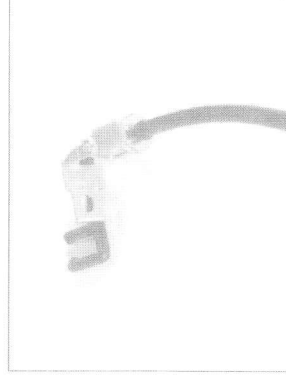
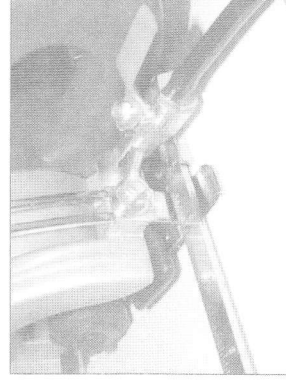

Figure-2
Figure-3
3. Insert the plastic nozzle on the water feed assembly behind the height adjustment slide. Make sure that the bridge (Part No. 35) is in front of the slide. If your blade is already installed, the plastic nozzles should be positioned so that each nozzle directs water spray onto each side of the blade. (See Figure-2 & Figure-3)